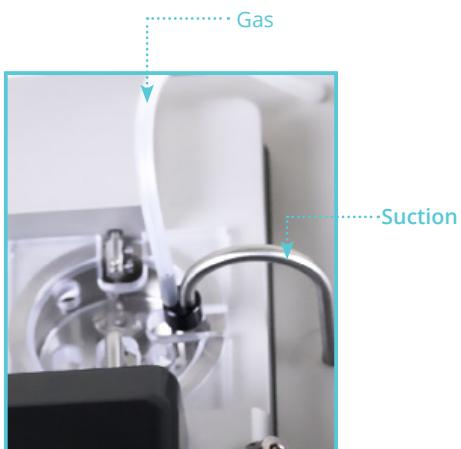

Figure 2.2 Suction connection
3. **Oxygen Supply:** Connect the gas supply (95% O₂, 5% CO₂ or 21% O₂, 5% CO₂, balance N₂) with tubing running from the gas supply to the gas inlet on the back of the Interface. Oxygen is supplied to the chambers by tubing attached to the stainless steel vacuum pipe. The oxygen and vacuum tubing need to be inserted into the chamber in order to aerate the heated buffer. Needle valves on the back of the interface can be adjusted to regulate the amount of bubbling that occurs. Turning the regulator clockwise increases the bubbling while turning it counter-clockwise decreases the bubbling. Each regulator has a lock device attached that can be used when the desired bubbling is achieved. See Figure 2.2 on next page.
4. **Vacuum Connection:** The system has a built-in manifold with separate valves that allows each chamber to be drained individually. After connecting the vacuum source at the back of the Interface, the vacuum pipes need to be inserted into the chambers in order for this feature to work properly. The pipes are inserted into the chamber by gently pulling up on the curved part of the pipe, turning it 90° counter- clockwise and gently lowering it into the chamber. A chamber can then be emptied by pressing the corresponding numbered button. Pressing the “all” button will empty all the chambers at the same time, see Figure 2.2.